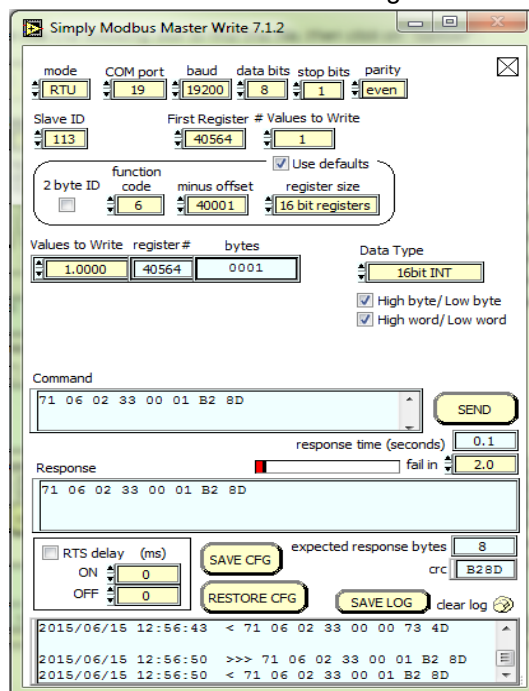

Figure 28: WRITE Configure Fields
- The screen below will be shown. Configure the fields as shown in Figure 28.